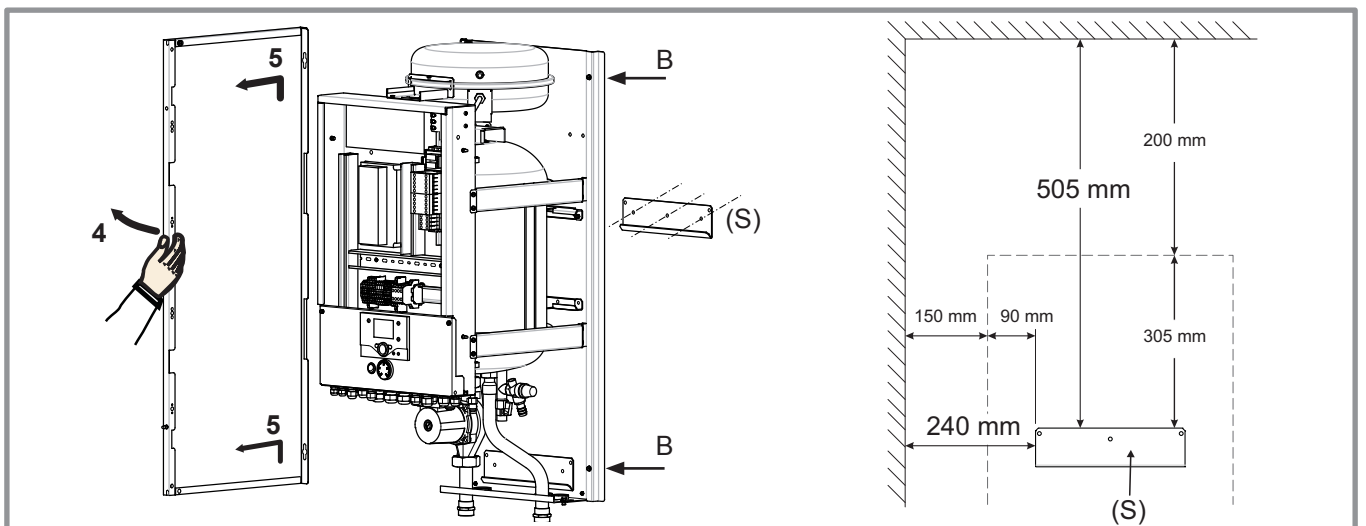

Figure 15 - Removing the sides and fixing the support
- Remove the sides (4 screws **B**, figure 15).